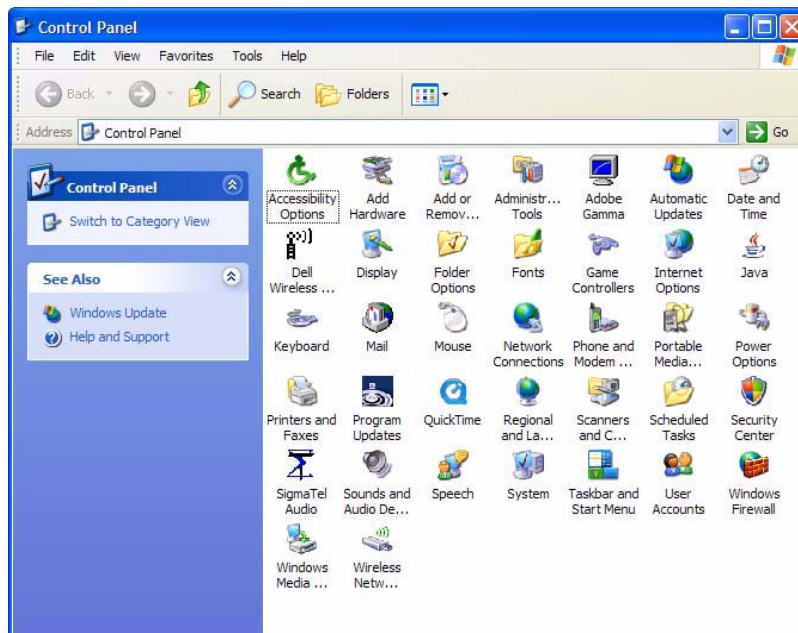

Figure 6-8 Control Panel
1. From the **Start** menu, point to **Settings** and then click **Control Panel**. (Figure 6-8).